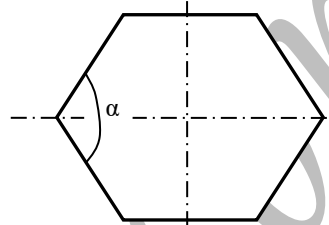

Figure 15
44. Choose the internal angle α of the regular hexagon in the figure 15 below.
48. Interpret the nature of the line AB of figure 15 Below when viewed from F